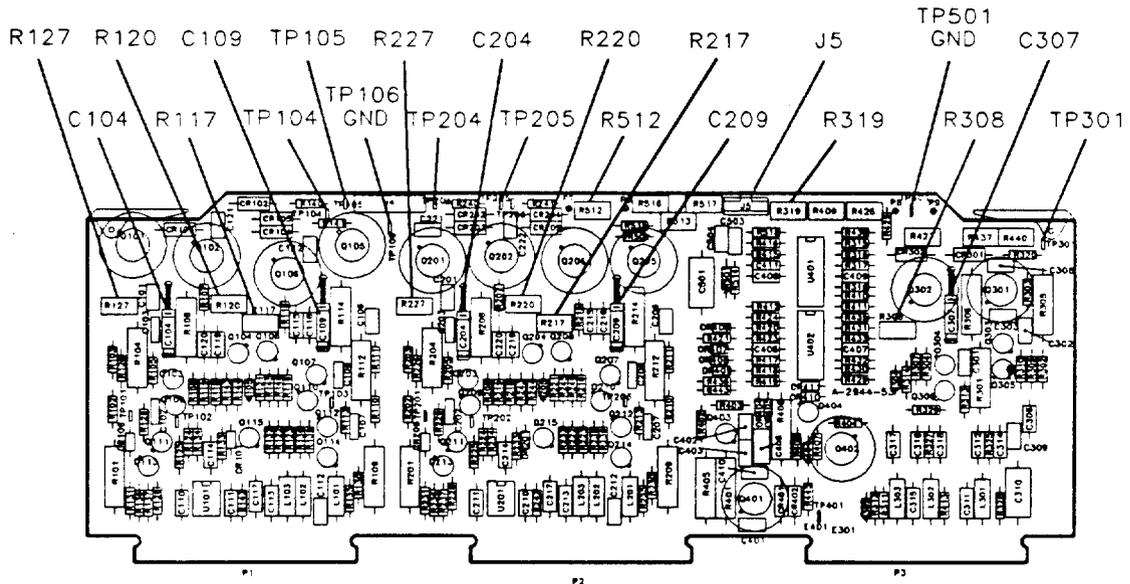
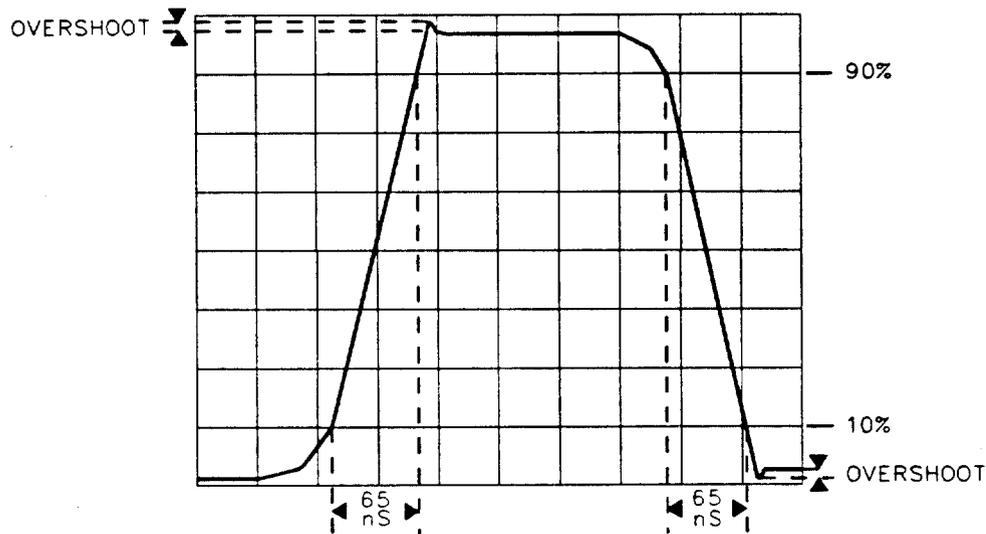

Figure 12. A1A2 Adjustment Locations
Figure 13. Rise and Fall Times and Overshoot Adjustment Waveform
21. Adjust A1A2R227 X POSN and A1A2R220 X GAIN for a full eight-division display on the oscilloscope, as shown in Figure 13. See Figure 12 for the location of the adjustments.
25. Connect the oscilloscope's channel 1 probe to A1A2TP104 and the channel 2 AUX probe to A1A2TP105. See Figure 12 for the location of the test points. Connect the output of the pulse generator to J2 (Y input) on the A3A2 Display Adjustment PC board.
35. Connect the oscilloscope's channel 1 probe to A1A2TP301. Connect the probe's ground lead to A1A2TP501. See Figure 12.
40. Adjust the spectrum analyzer's front-panel INTENSITY control for 50 V peak-to-peak (5 divisions) as indicated on the oscilloscope. Adjust the oscilloscope's channel 1 sensitivity and **offset** for a full eight-division display. See Figure 13.